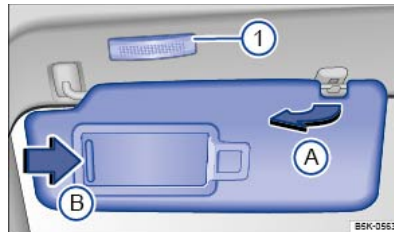

Fig. 107 In the front headliner: sun visor.
- Pulled out of the bracket and swung over towards the door ⇒ Fig. 107 ☉.
There is a vanity mirror behind a cover on the inside of the sun visor. When you open the cover ⇒ Fig. 107 ☉, a lamp ⇒ Fig. 107 ① lights up.